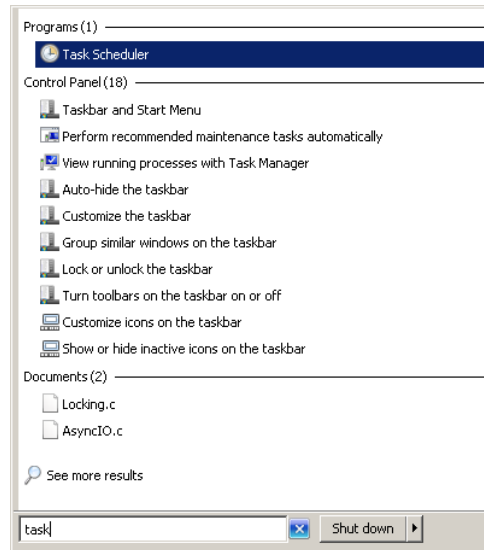

Figure 2-6: Starting Task Scheduler
1. Start the Windows 7 Task Scheduler (enter task) in the *Run Application* window, as shown in Figure 2-6.